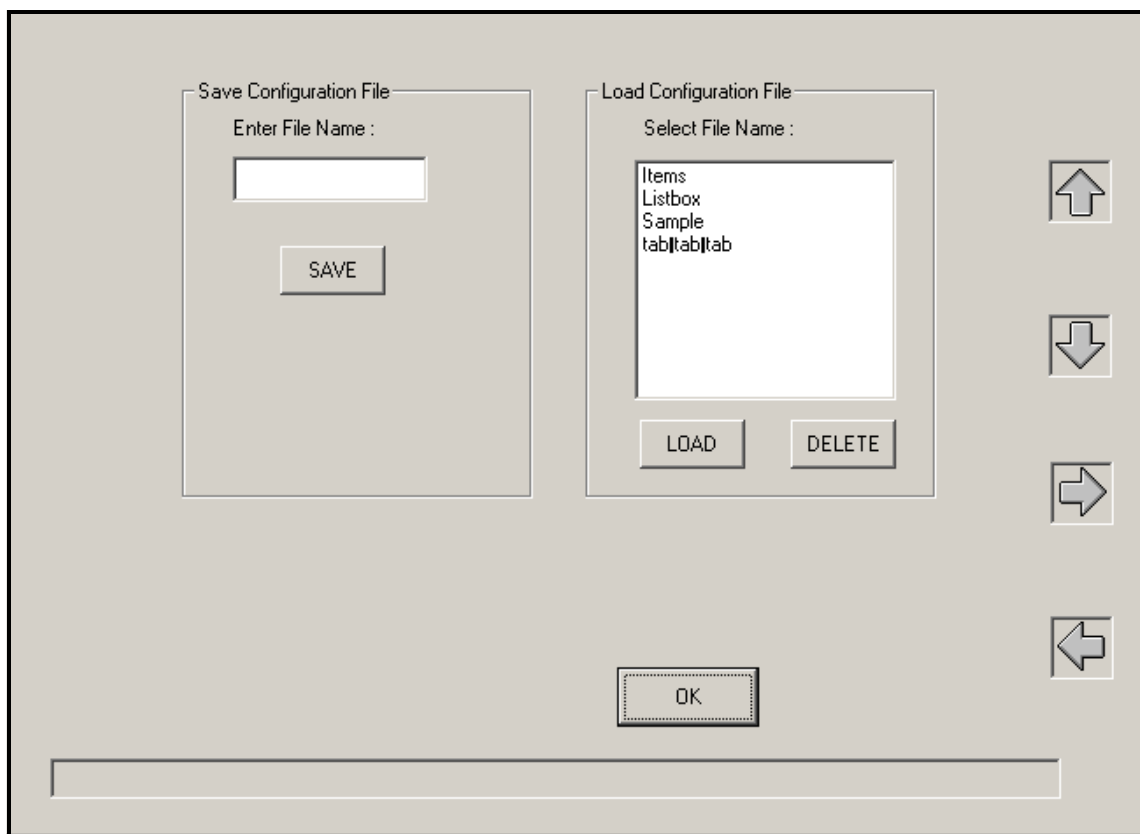

Figure 36: Configuration Screen
1. Select **Configuration** on the Main Screen. A screen similar to the one shown below in Figure 36 appears.